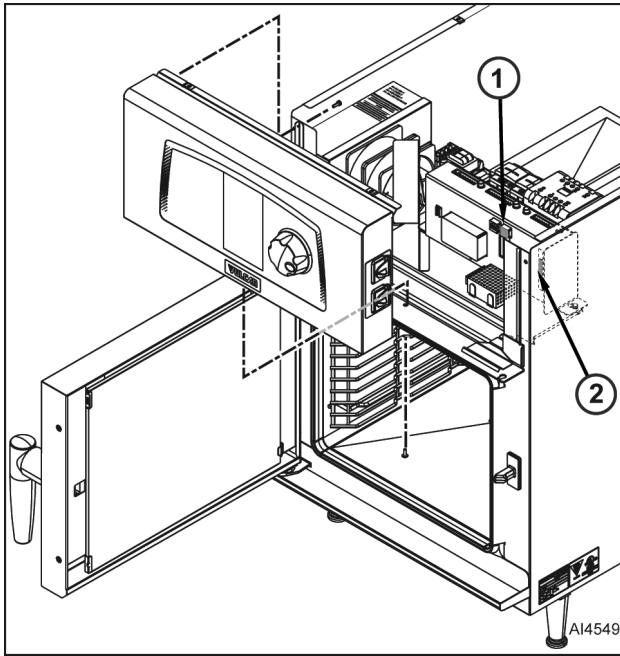

Fig. 3
2. Disconnect Ethernet cable from output control assembly port (1, Fig. 3).
3. Disconnect external core probe cable from output control assembly connector (2, Fig. 3).